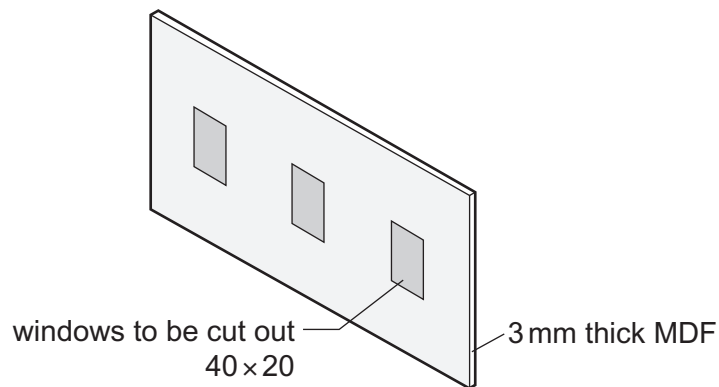

Fig. 11.2
- (a) Fig. 11.2 shows the front of the case with the windows marked out, ready to be cut out. Use sketches and notes to show how **one** window could be cut out by hand. Name all the tools and equipment used.